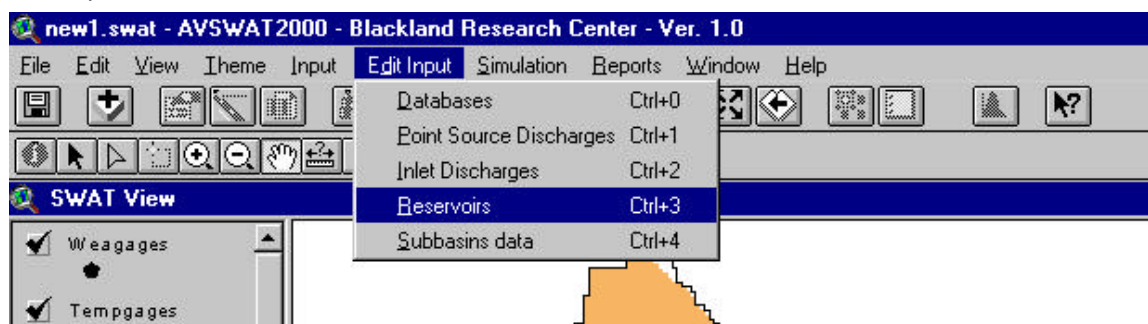

Figure 11.2
1. Select **Reservoirs** from the **Edit Input** menu (or press `Ctrl+3`) (Figure 11.2).